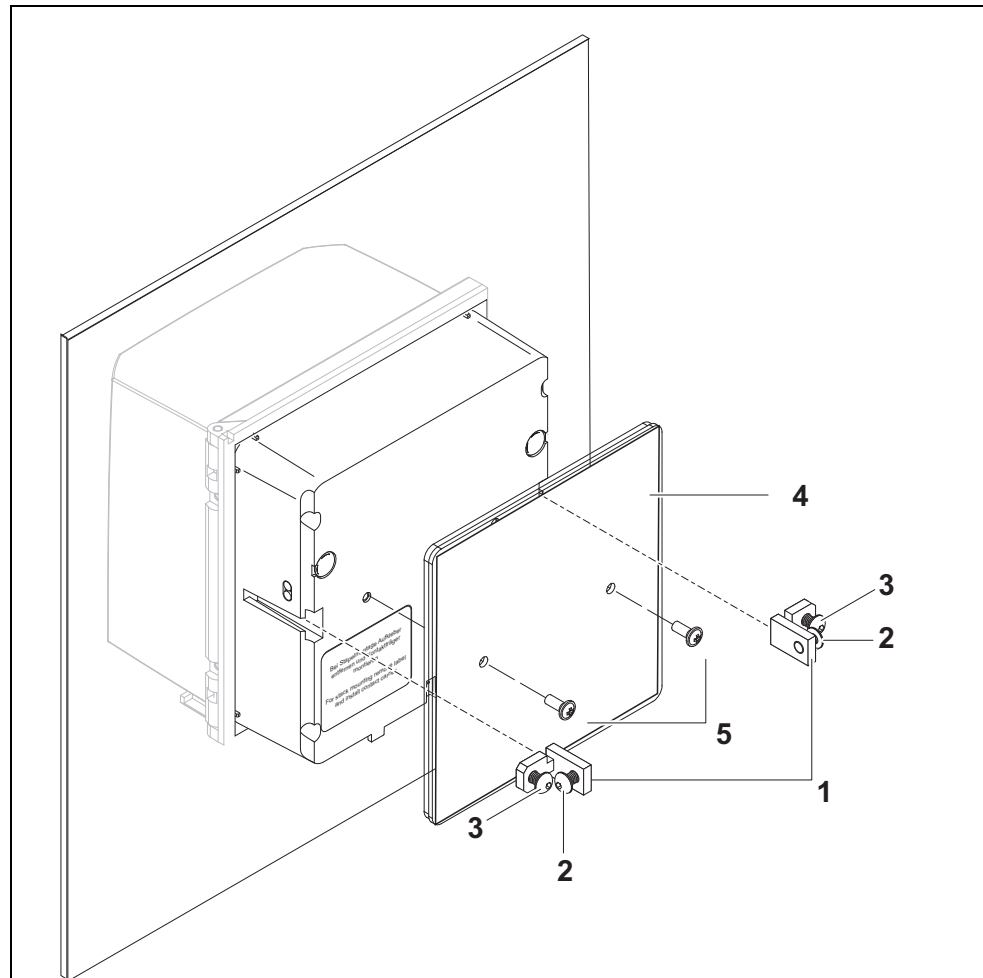

Fig. 3-11 Mounting the DIQ/S 28X in Fig. 3-11
- 2 Slightly unscrew the bolts (pos. 2 and 3) of the two angle brackets (pos. 1 in Fig. 3-11), but do not remove them.
- 3 Push in the two angle brackets - as shown in Fig. 3-11 - into the lateral guides of the universal transmitter up to the stop.
- 4 Tighten the bolts (pos. 2).
- 5 Screw in the bolts (pos. 3) until the bolts rest snugly against the panel.